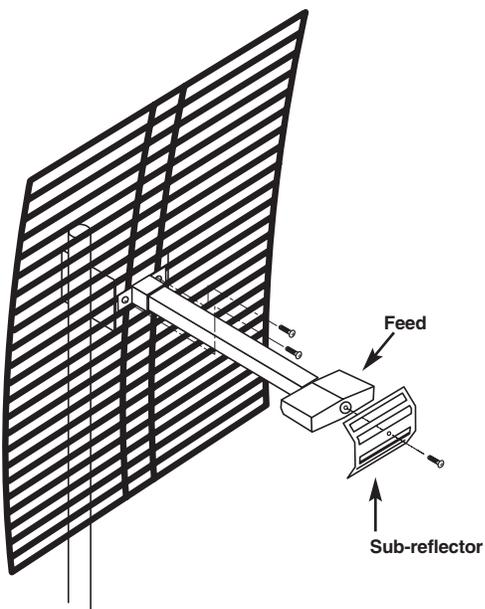
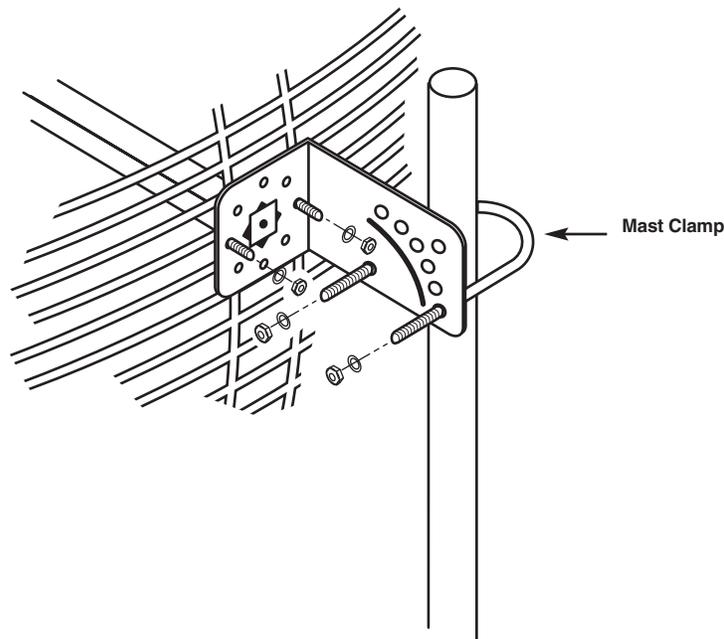
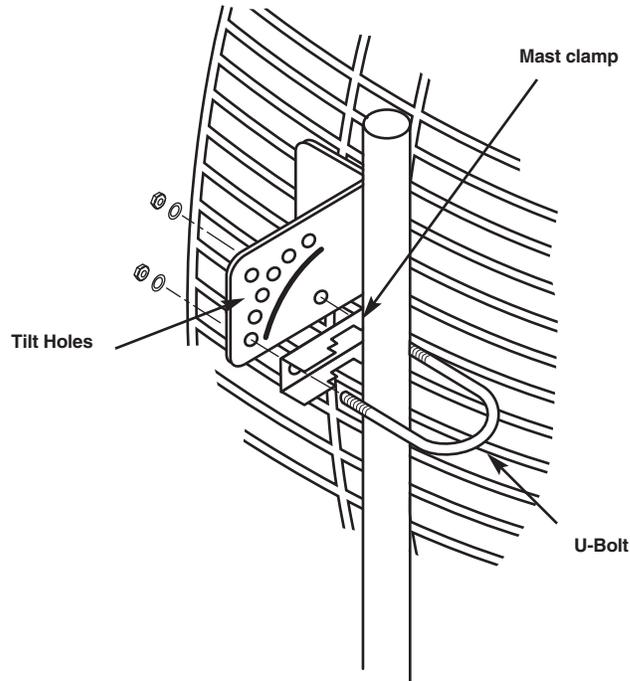

Figure 3-4. Securing the Sub-Reflector on the Front of the Feed.
Figure 3-5. Attaching the “L” Bracket.
Figure 3-6. Placing the Mast Clamps on the U-Bolts.
2. Place the sub-reflector on the front of the feed and secure it with the #6 x 1/2" stainless screw. See **Figure 3-4**.
4. Place the “L” bracket on the back of the antenna. Insert two carriage bolts from the front (see **Figure 3-4**) to attach. Secure on the back with the lock washers and nuts (see **Figure 3-5**).
6. Attach the feed on the front with two carriage bolts. Secure on the back with the lock washers and nuts (see **Figure 3-4**),
7. Place the two mast clamps on the two U-bolts (see **Figure 3-6**). Fasten the U-bolts on the “L” bracket with the four lock washers and nuts (see **Figure 3-5**).